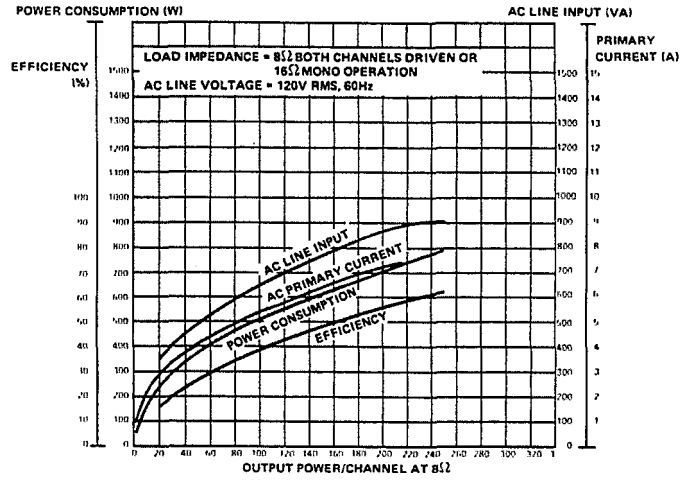

Fig. 12 - Power Consumption
**Efficiency:** (Refer to Figure 12.)